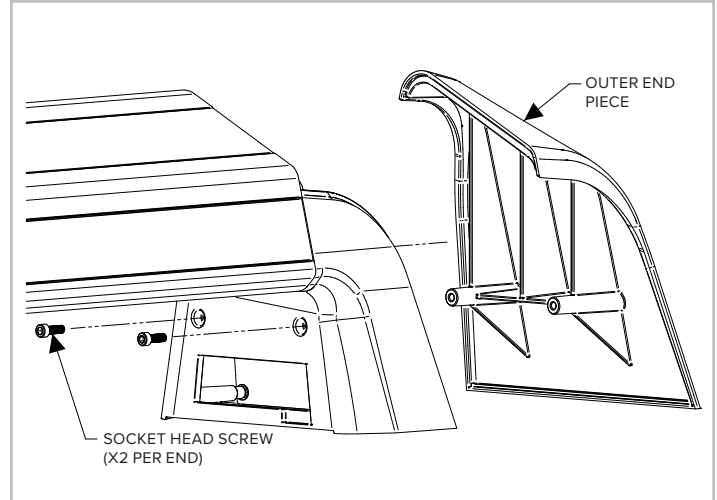

Figure 5: The outer end piece comes off with the removal of two socket head screws.
2. Remove the 4 socket head screws using the supplied 9/64" Allen wrench and the outer end pieces. See *Figure 5*.